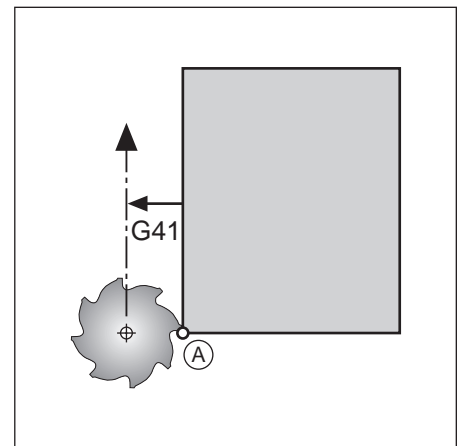

Fig. 5.4 : First contour point for machining
If the starting point is located within the shaded area of fig. 5.4, the contour will be damaged when the first contour point is approached. The optimum starting point (S) is located in the extension of the tool path for machining the first contour.